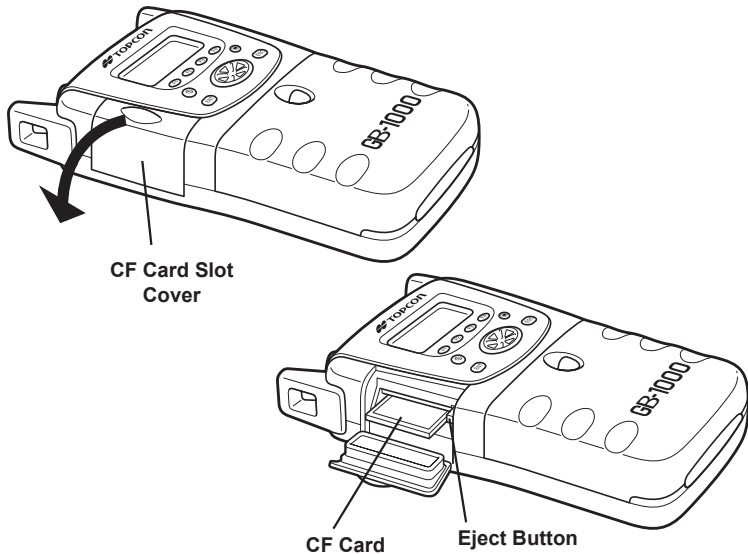

Figure 2-15. Inserting and Removing the Compact Flash Card
The GB-1000 comes equipped with a Compact Flash card slot used to copy files from the internal memory to a compact flash (CF) card for use in a computer. Any compact flash (CF) card used with the GB-1000 must be compatible with Type I 3.3V. Figure 2-15 illustrates inserting and removing a CF card.